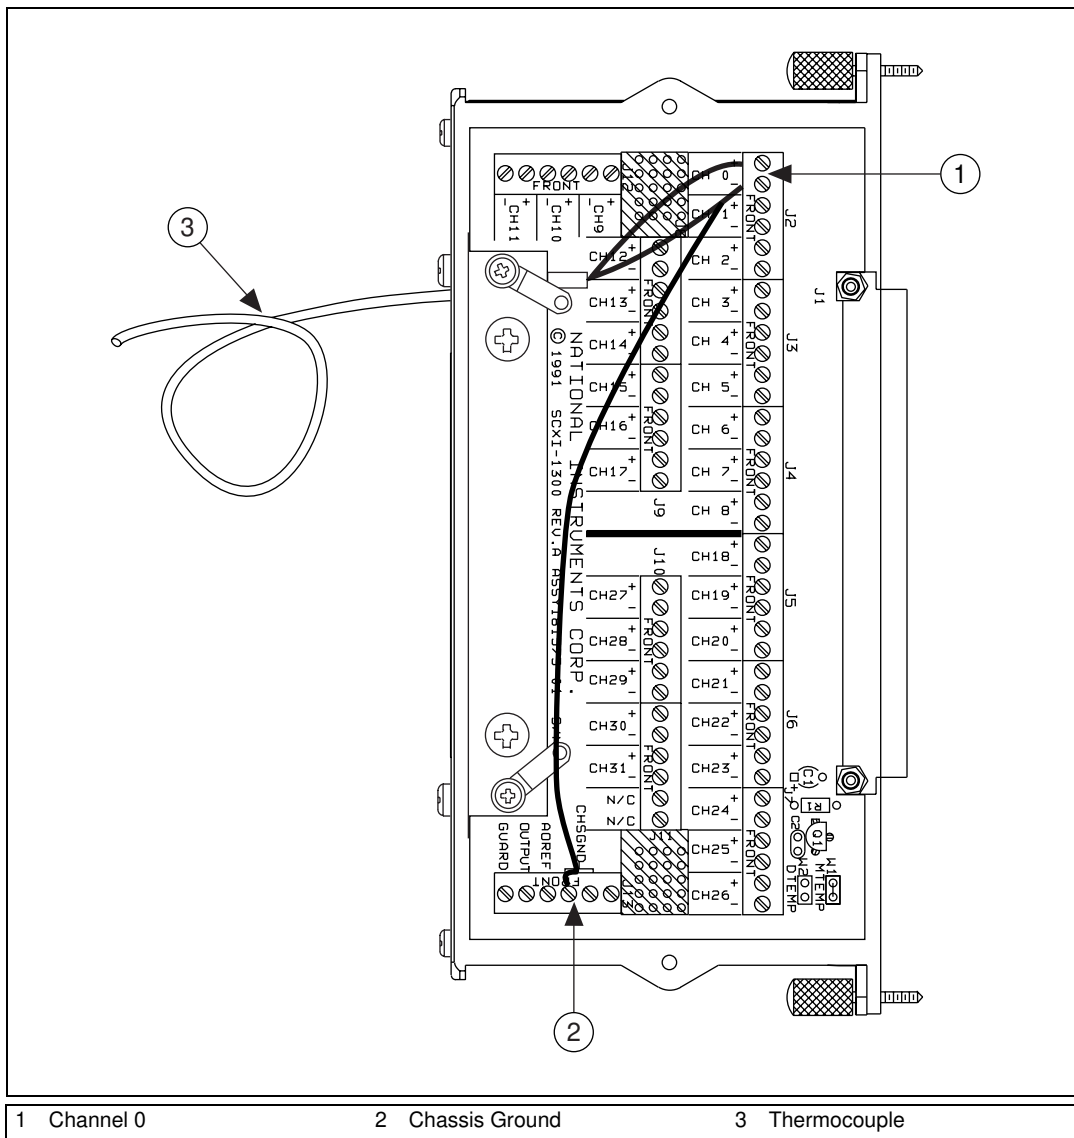

Figure 4. Connecting a Thermocouple to SCXI-1300 Channel 0
- Ground the negative lead of the thermocouple inside the SCXI-1300 terminal block, by connecting CH– to CHSGND as shown in Figure 4. In most applications, this is the most convenient grounding option. Leave jumper W1 on the SCXI-1100 in the factory-default (parking) position.
- Ground the negative lead of the thermocouple inside the SCXI-1300 terminal block, by connecting CH– to CHSGND as shown in Figure 4. In most applications, this is the most convenient grounding option.